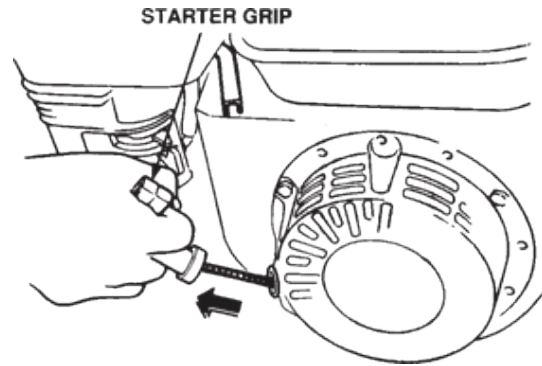

FIGURE 10
9.6 Grasp the starter grip (Figure 10) and slowly pull it out. The resistance becomes the hardest at a certain position, corresponding to the compression point. Pull the starter grip briskly and smoothly for starting.